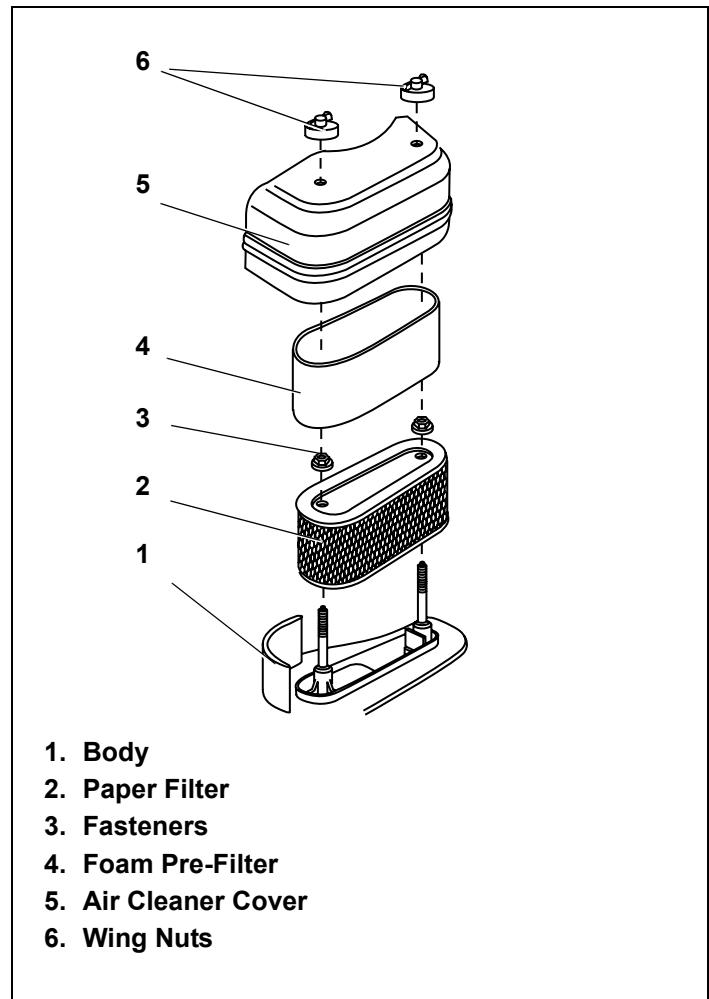

Figure 18. Air Cleaner Components
1. Remove wing nuts from air cleaner cover. See Figure 18.